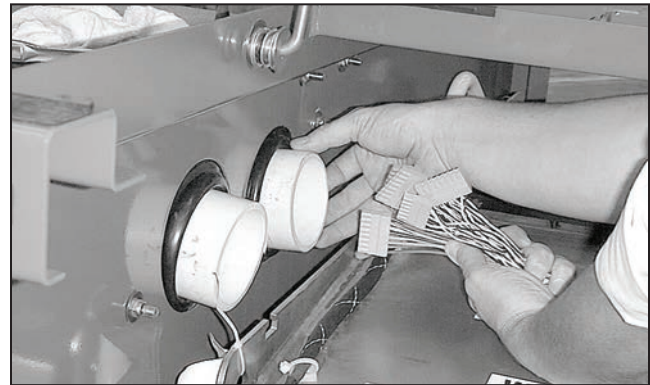
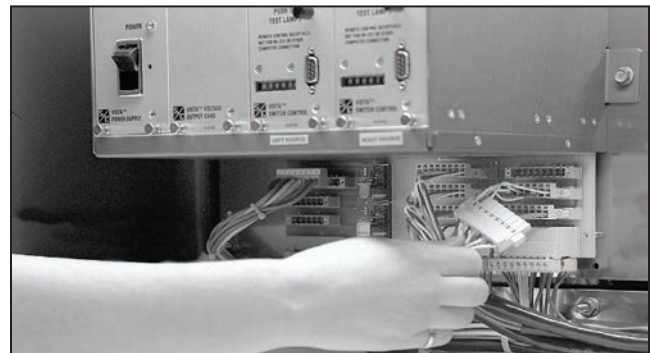
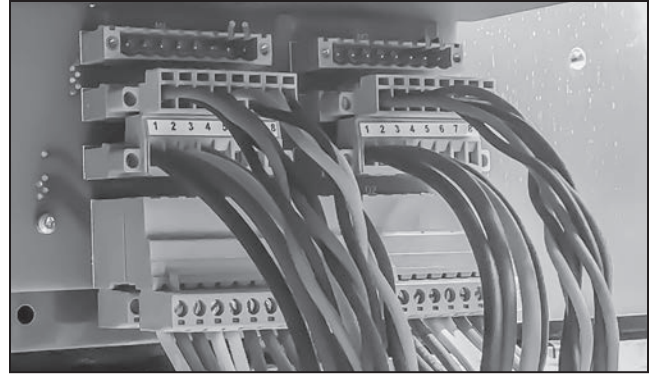

Figure 23. Insert the cables through the PVC pipe.
Figure 24. Attach the connectors.
Figure 25. Close-up of Vista Rack Backplane Board connectors.
- (d) If applicable, route the VS-G1 and VS-G2 wires into the low-voltage compartment through the PVC pipe. See Figure 23. Then, route the larger main cables through the PVC pipe: attach connectors to the Vista Rack Backplane Board using the drawings provided. See Figure 24 and Figure 25 on page 21.